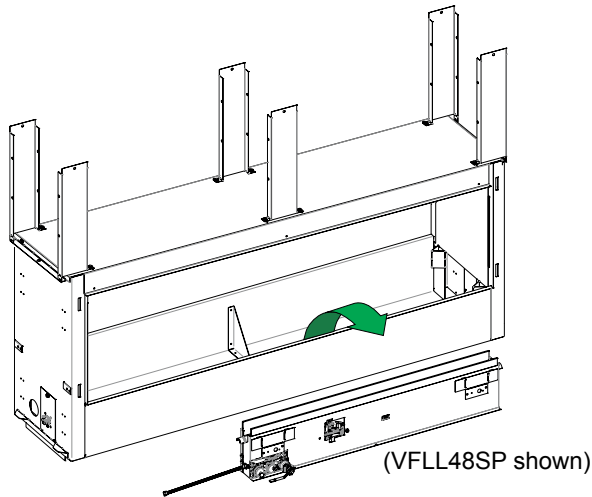

Figure 12
- Lift the complete burner and valve assembly upward, then turn it sideways in fireplace opening to gain easy access to the junction box. You may remove the complete burner and valve assembly as shown in **Figure 12**.